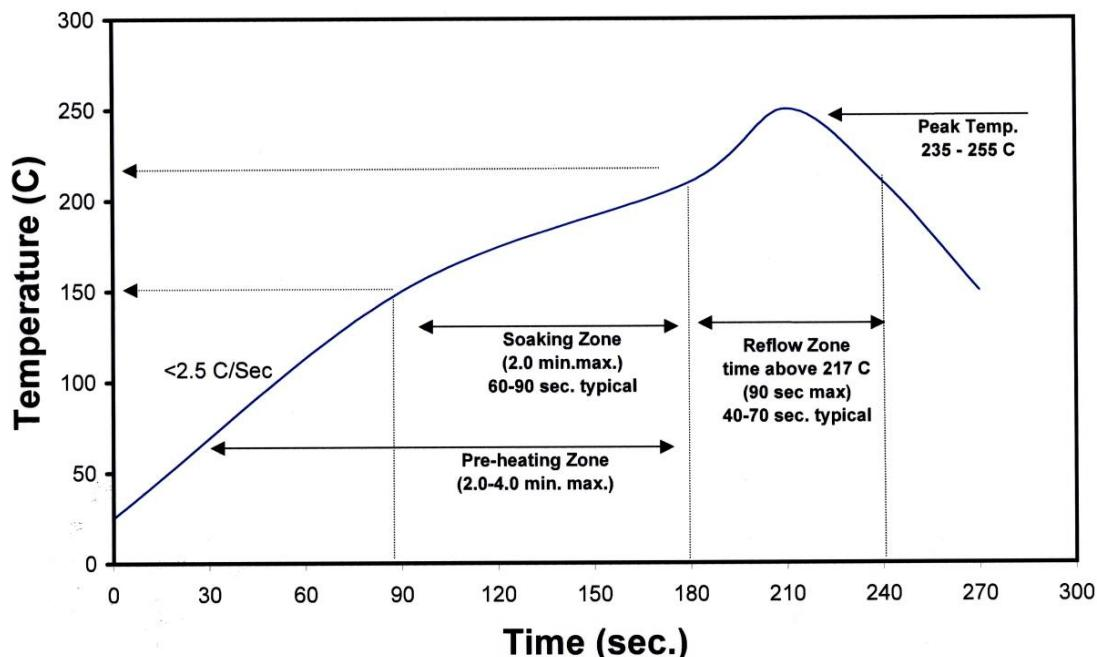

Figure 3: Reflow soldering profile for lead free soldering.
4. Solder conditions per JEDEC 020c. See Reflow Soldering Profile Figure 3.